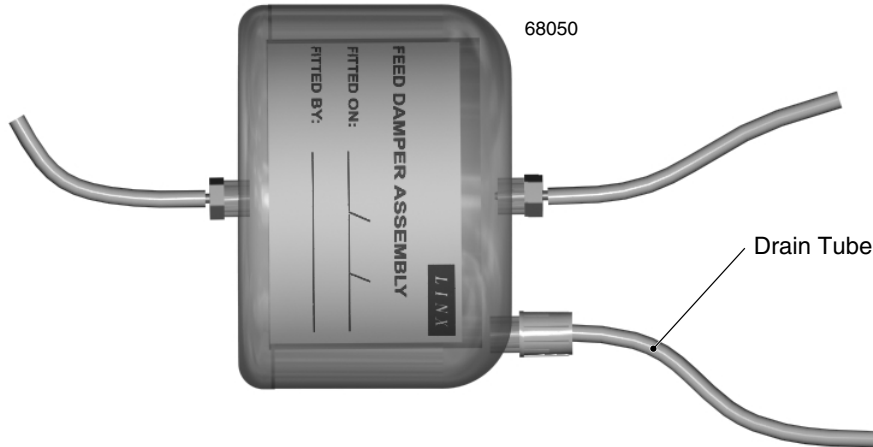

Figure 1. Feed Damper with Drain Tube Connected
- 7 Insert the other end of the drain tube into a waste container of at least 5 litres capacity. Orientate the damper so that the drain is at the bottom, i.e. at its lowest position (see figure 1).